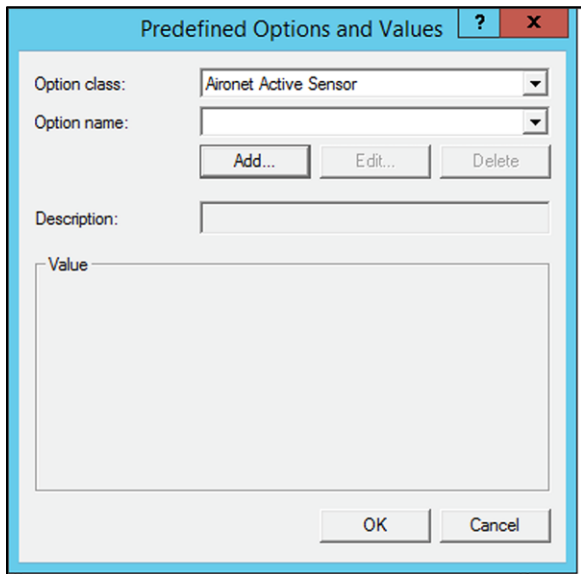

Figure 34.
3. Right-click on **IPv4**, then click **Set Predefined Options**. Open the **Option class** drop-down menu and select the **DHCP vendor class** you just created, then click **Add (Figure 34)**.